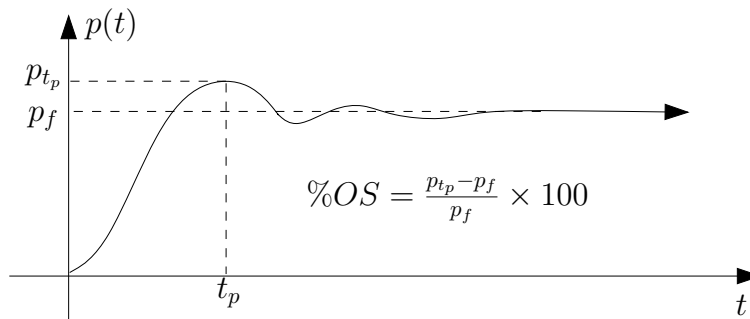

Figure 1: Illustration of percent overshoot and peak time.
- (c) The overshoot (%OS) is less than 15% and the peak time (t_p) is less than 0.2 second (see Figure 1).
where ζ is the damping ratio, with $0 \leq \zeta < 1$, and ω_n is the natural frequency. Second, both the damping ratio and the natural frequency can be found from the specifications (spec (c)) for percent overshoot and peak time (Figure 1). That is,